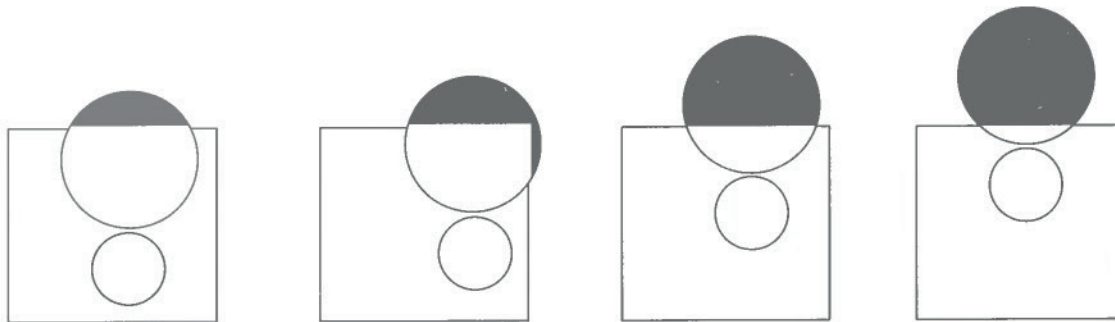

Figure 4 – Position of Stop Block
Step 4: The STOP BLOCK must be positioned in one of four ways. See Figure 4. Always position the STOP BLOCK so that it is as close as possible to the center DIE, while still allowing for the thickness of the stock.